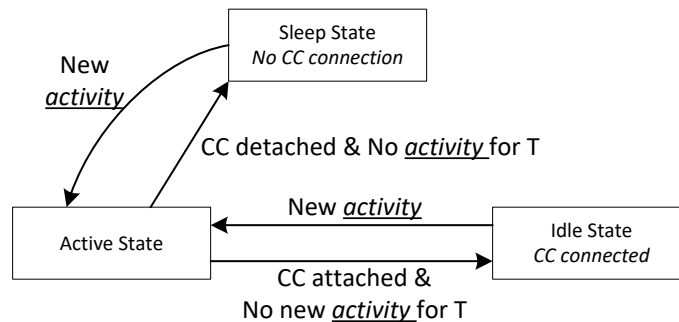

Figure 7-24. Flow Diagram for Power States
- (1) See Table 7-5 to see the exact meaning of I²C Address Index.
(2) See Table 7-2 for how to configure a given ADCINx decoded value.
The TPS26750 can operate in one of three different power states: Active, Idle, or Sleep. The Modern Standby mode is a special case of the Idle mode. The functionality available in each state is summarized in Table 7-7. The device automatically transitions between the three power states based on the circuits that are active and required. See Figure 7-24. In the Sleep state, the TPS26750 detects a Type-C connection. Transitioning between the Active mode to Idle mode requires a period of time (T) without any of the following activity: